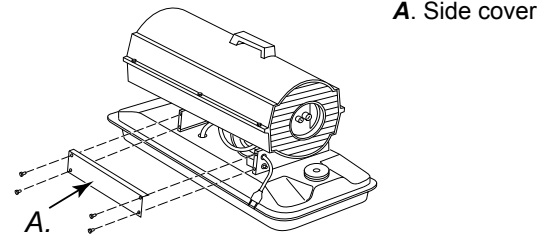

Figure 29 – removing cover.
1. Using the 5/16" nut driver or socket wrench, remove the four side cover screws (see Figure 29).